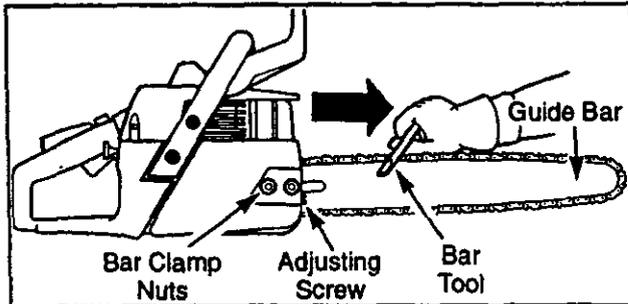

Figure 44
- Use the screwdriver end of the bar tool to move chain around the guide bar (Fig 44).